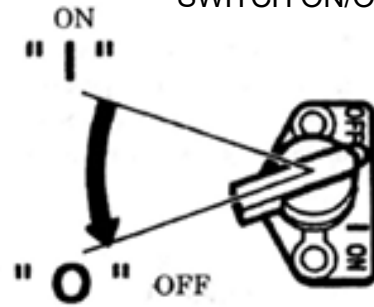

Fig. 12
2. Turn the ignition switch to the OFF position. (Fig. 12)